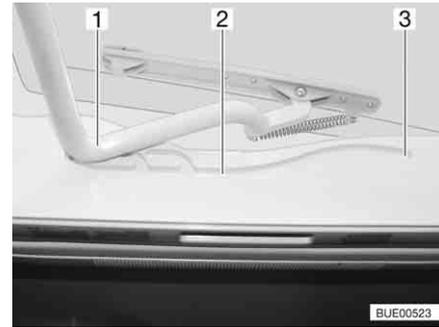

Fig. 91 Heki skylight, guide
- Pull the bar (Fig. 91,1) in the guides (Fig. 91,2) to the rearmost position (Fig. 91,3).
- Use both hands to push the bar (Fig. 91,1) slightly upwards.
- Pull the bar in the guides (Fig. 91,2) to the desired position.